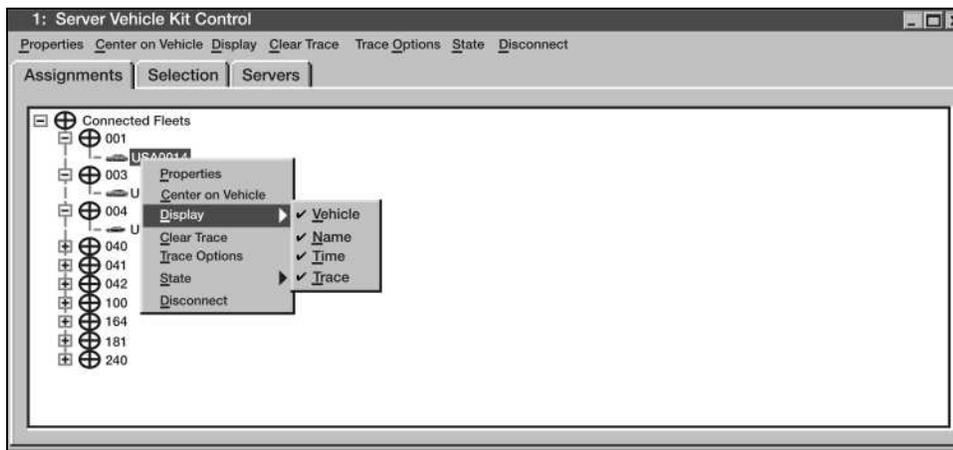

Figure 3-47. Hiding and Showing a Position
- 5) Right click on a Control Group (such as 001, 002, 003, and so forth), and select All Vehicles - Hide. If a control group is already hidden, to show it, simply select All Vehicles – Show (see Figure 3-47).